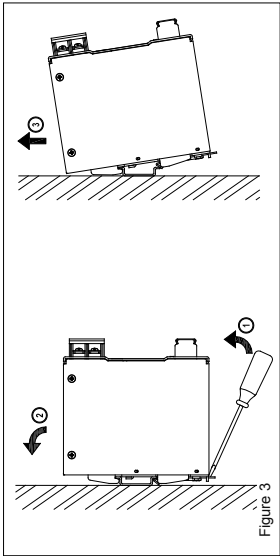

Figure 3
- 4. Dismounting (Fig. 3)**
- To uninstall, pull or slide down the latch as shown in Fig. 3. Then, slide the PSU in the opposite direction, release the latch and pull out the PSU from the rail.